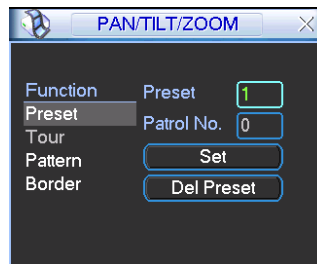
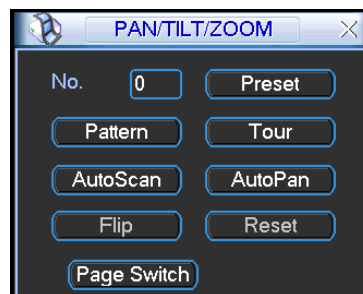
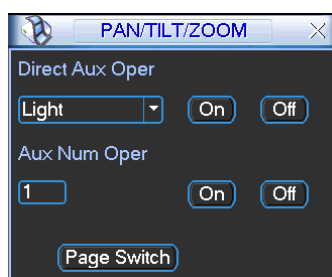

Figure 4-34
Figure 4-35
Figure 4-40
In Figure 4-31, please click the “set” button. The interface is shown as below. See Figure 4-34. Here you can set the following items:
In Figure 4-31, click page switch button, the interface is shown as in Figure 4-35. Here you can activate the following functions:
- The following setups are usually operated in the Figure 4-31, Figure 4-34 and Figure 4-35 .
In Figure 4-34, click preset button and input preset number. The interface is shown as in Figure 4-36.
In Figure 4-35, please input preset number in the No. blank, and click preset button.
In Figure 4-34, click patrol button. The interface is shown as in Figure 4-37. Input preset number and add this preset to a patrol (tour). For each patrol (tour), you can input max 80 presets.
In Figure 4-34, input patrol (tour) number in the No. blank and click patrol button
In Figure 4-34, click pattern button and then click “begin” button. The interface is shown as in Figure 4-38. Then you can go to Figure 4-31 to modify zoom, focus, and iris.
In Figure 4-35, input mode value in the No. blank, and click pattern button.
In Figure 4-34, click border button. The interface is shown as in Figure 4-39.
In Figure 4-35, click "Auto Scan" button, the system begins auto scan. Correspondingly, the auto scan button becomes Stop button. Click stop button to terminate scan operation.
In Figure 4-35, click page switch button, you can see an interface is shown as below. See Figure 4-40. Here you can set auxiliary function. The aux value has relationship with the Aux button of the decoder.